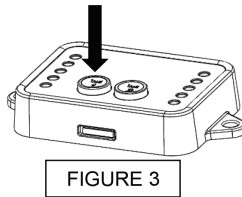

FIGURE 3
- 2.2 **See Fig 3**--Hold one of the buttons on your Display until the lights for that button start flashing (approx 5 seconds). Release button when lights start flashing.